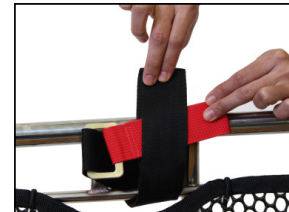

Figure 8, Threading Buckle
3. Thread the buckle through the restraint loop (Fig. 8) and pull until the loop is tight around the rescue litter rail.